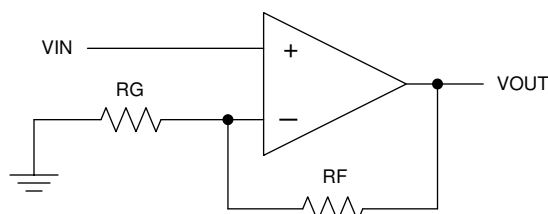

Figure 14. Schematic Representation
- Place the external components as close to the device as possible. As shown in Figure 14, keep RF and RG close to the inverting input to minimize parasitic capacitance.